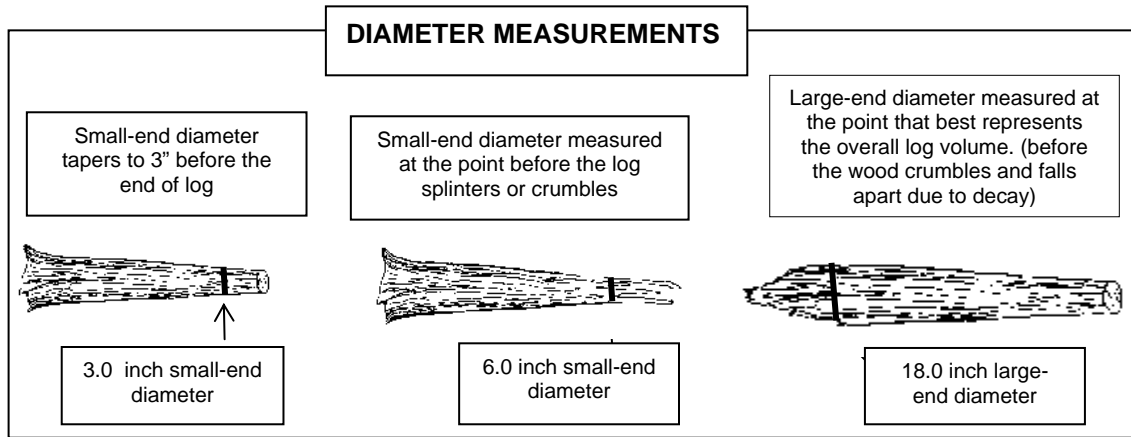

Figure 25-7. Diameter measurements
The diameter is most commonly measured by holding a tape above the log, at a position perpendicular to the length (fig. 25-7). It is useful to carry a steel carpenters retracting tape to measure diameters. Other methods include wrapping a tape around the bole if possible, holding a straight-edge ruler above the piece, or using calipers.
Record the code indicating the diameter at the piece's small end. The diameter is recorded to the nearest inch. The DIAMETER AT THE SMALL END occurs either at (1) the actual end of the piece, if the end has a diameter ≥ 3.0 inches, or (2) at the point where the piece tapers down to 3.0 inches in diameter. If the end is splintered or decomposing (sloughing off), measure the diameter at the point where it best represents the overall log volume. Use the same measuring procedures described in 25.5.3.6.1 (see fig. 25-7).